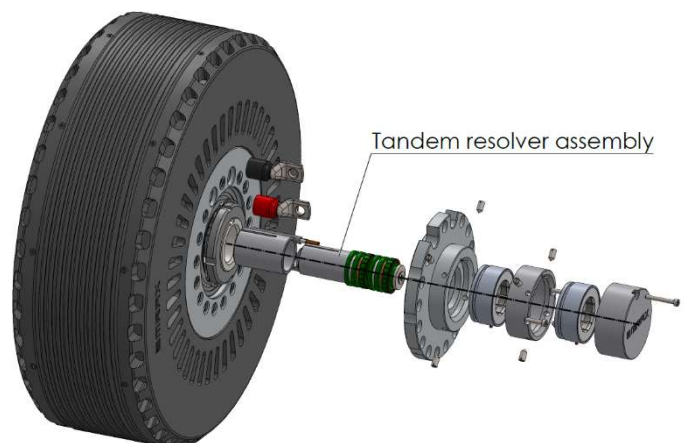
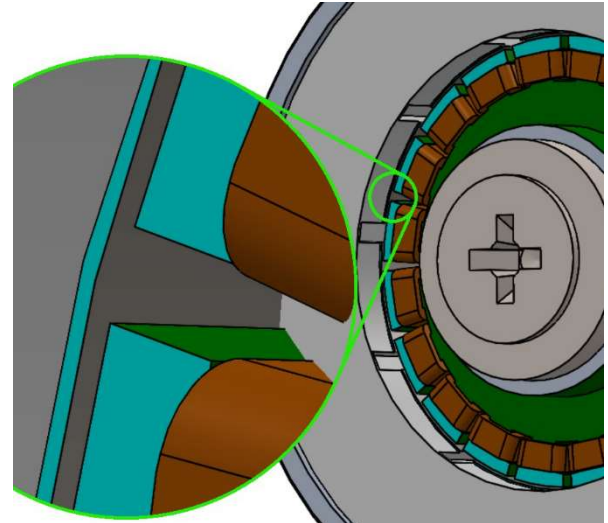

Figure 10: Tandem resolver assembly
Figure 12: Resolver rotor alignment
3. Insert the rotor assembly into the backside of the motor, inside the motor shaft (as shown on Figure 10). Before inserting the part use threadlocker glue on the faces, where the parts are mated.
4. If case of liquid or combined cooled motor, insert the coolant fittings into the stator (please refer to Chapter 3.6.). Mount the resolver bracket (7) on the back of the motor. Make sure that it is seated in its position, if necessary, use temporary bolts to tighten it to the motor.
5. Mount the first resolver stator (9) to the mounting flange of the resolver bracket (7). While holding the resolver stator (9) down, use DIN 914 set screws (8) to bolt it down from the side. Using threadlocker glue supplied with the kit on the threads is recommended.
6. Make sure all the highlighted surfaces (blue) in Figure 12 are aligned in one plane.